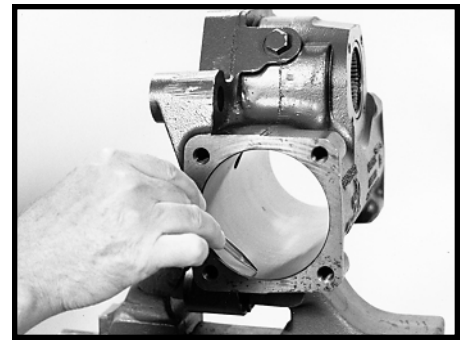

Figure 89
4. Inspect the housing cylinder bore. SEE FIGURE 89. You will probably notice normal scoring marks running lengthwise through the bore. Since this scoring is normal, you should not compare it to the scoring considered detrimental in the cylinder bores of an internal combustion engine. Replace the housing only if you've tested it for internal leakage (as described in the troubleshooting section on page 7) and you've determined that the scoring, and not damaged seals, is responsible for the excessive internal leakage, greater than 1.5 gpm (5.7 liters/min).